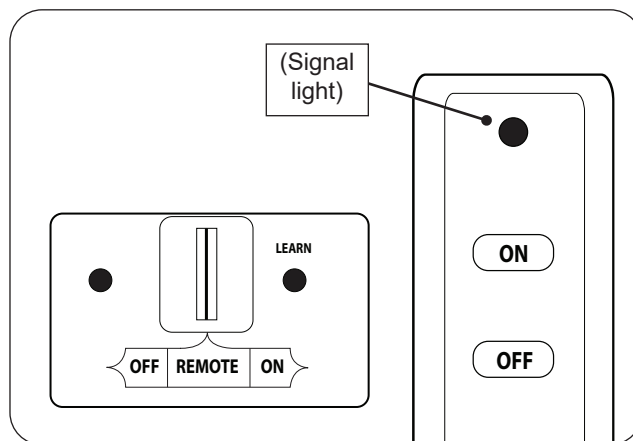

Fig. 37-1 Remote lighting
3. Slide the 3-position switch on the remote receiver to **REMOTE** (see Fig. 37-1).
4. Locate the remote transmitter and press the **ON** button (see Fig. 37-1). The ignition sequence will begin.